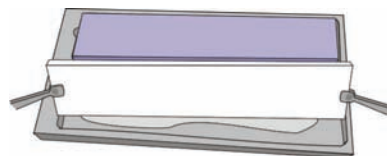

Fig. 4.3
5. Remove excess electrode buffer from the wicks by tilting the electrode wicks along one long edge and dab it on the PaperPool bottom (fig. 4.3).